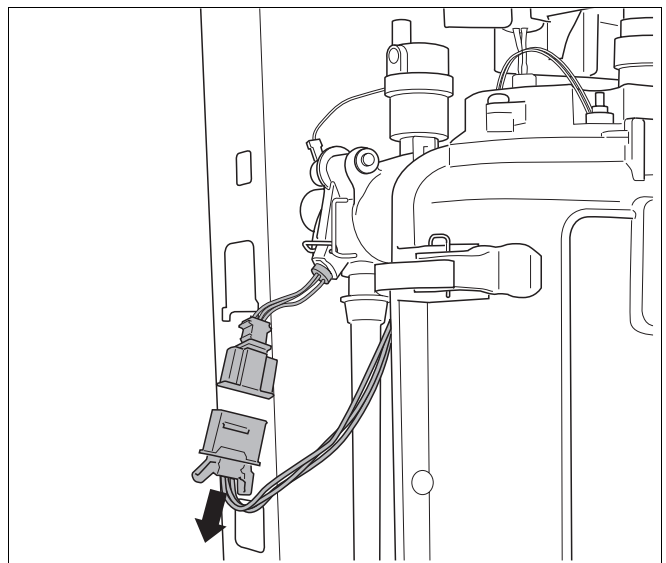

fig. 81 Remove cable connection of bi-sensor
- Remove the cable connection (→ fig. 81) of the bi-sensor.